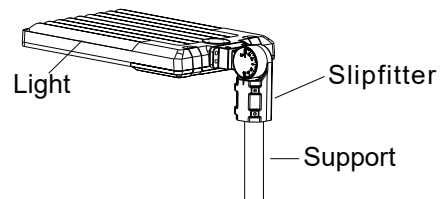

Figure 13
Step 4: Place the bracket into the pole and lock the four bolts.(Figure 13)